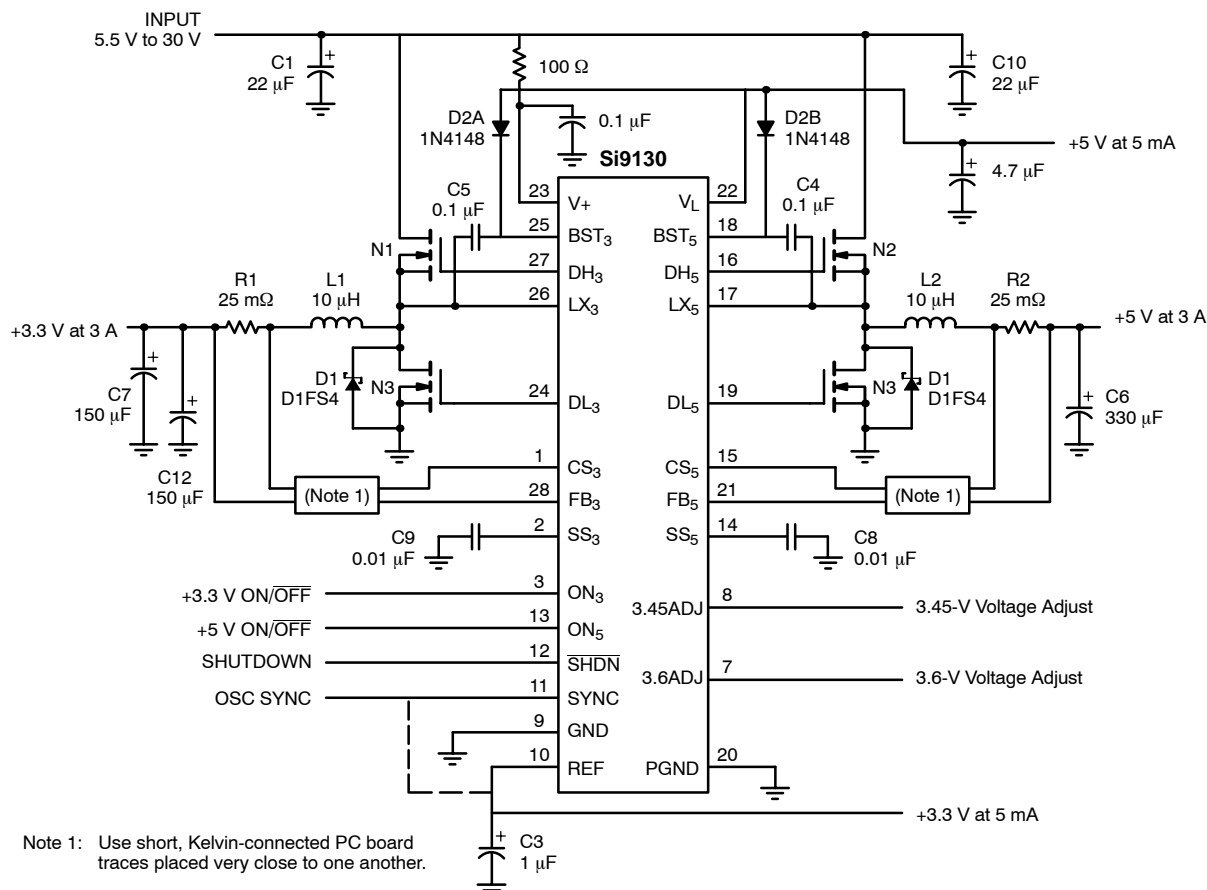

FIGURE 1. Si9130 Application Circuit
The Si9130 is a dual step-down converter, which takes a 5.5-V to 30-V input and supplies power via two PWM controllers (see Figure 1). These 5-V and 3.3-V supplies run on an optional 300-kHz or 200-kHz internal oscillator, or an external sync signal. Amount of output current is limited by external components, but can deliver greater than 6 A on either supply. As well as these two main Buck controllers, additional loads can be driven from two micropower linear regulators, one 5 V (VL) and the other 3.3 V (REF)—see Figure 2. These supplies are each rated to deliver 5 mA. If the linear regulator circuits fall out of regulation, both Buck controllers are shut down.
The 3.3-V supply is regulated by a current-mode PWM controller in conjunction with several externals: two n-channel MOSFETs, a rectifier, an inductor and output capacitors (see Figure 1). The gate drive supplied by  $DH_3$  needs to be greater than  $V_L$ , so it is provided by the bootstrap circuit consisting of a 100-nF capacitor and diode connected to  $BST_3$ .
The 5-V supply is regulated by a current-mode PWM controller which is nearly the same as the 3.3-V output. The dropout voltage across the 5-V supply, as shown in the schematic in Figure 1, is 400 mV (typ) at 2 A. If the voltage at  $V+$  falls, nearing 5 V, the 5-V supply will lower as well, until the  $V_L$  linear regulator output falls below the 4-V undervoltage lockout threshold. Below this threshold, the 5-V controller is shut off.